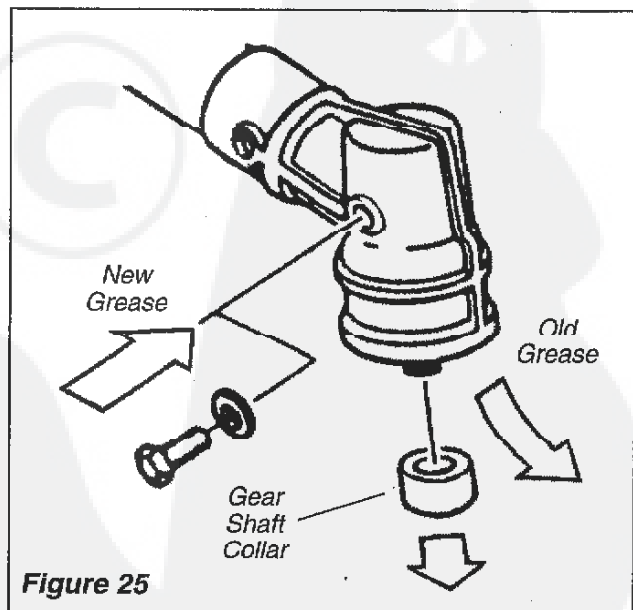

Figure 25
- Remove the cutting attachment and the gear shaft collar, and press new grease into the gear case until the old grease has been pushed out. Use only lithium-base grease such as Shindaiwa Gear Case Lubricant or equivalent. See Figure 25.